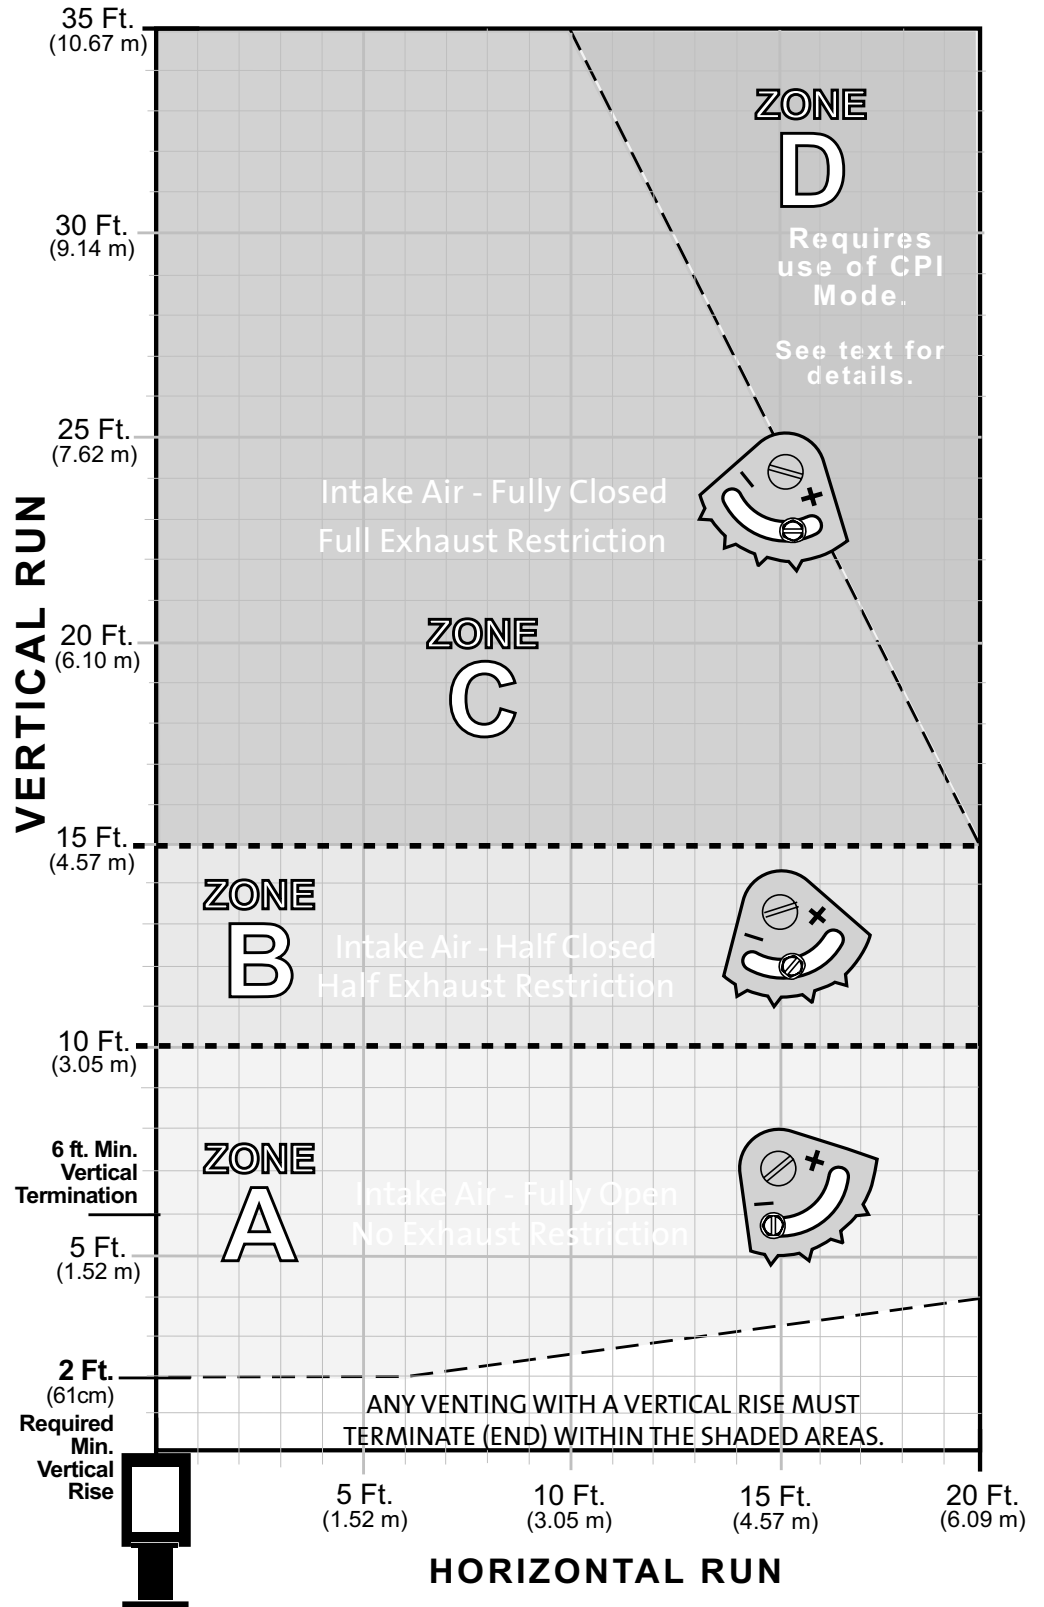

Figure 17. Vent Termination Diagram.
Use the Vent Termination Diagram, fig. 17, to determine which zone your vent termination falls within and make the appropriate exhaust and air intake setting adjustments. Use these settings as general guidelines to start from. The final settings will ultimately be determined by the individual characteristics of your particular installation. There are no hard and fast rules.
2. Loosen the locking screw and turn the restrictor pivot plate to the appropriate indicator point as specified in the vent window diagram, figure 17. After the burner has been operating for 15 minutes, make any further adjustment in 1/8” increments until the desired flame picture is achieved. **Do not exceed the fully closed setting as shown in fig. 15.** Operate the burner for 10-15 minutes between additional adjustments.